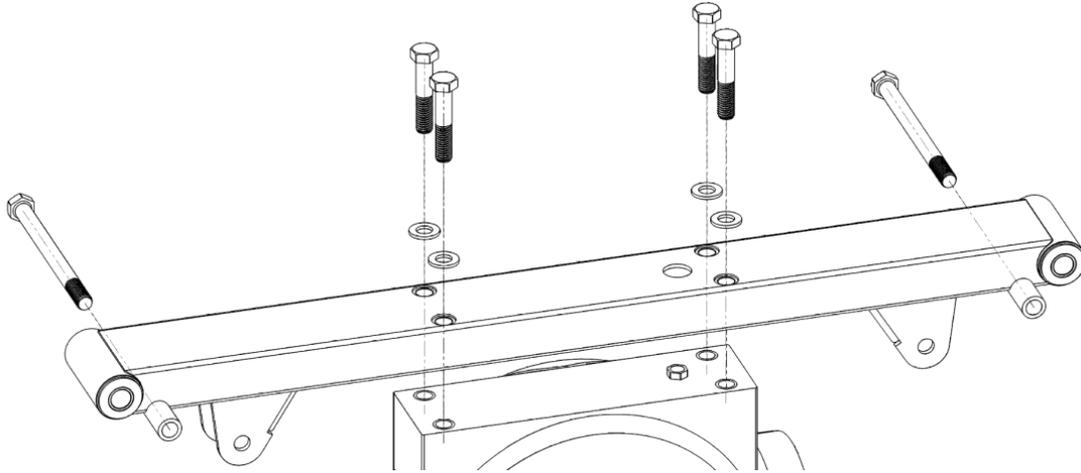

Figure 2. Install the cross member (make sure the vent hole is above the vent), and slip the upper shock bolts in place for now
- 4) Bolt the top crossmember to the top of housing with the upper link mounts facing down towards the ground, and the vent hole on the right (passenger) side as shown in Figure 2. Attach using QTY=4, ½" X 2-½" bolts, and 12mm washers supplied in the kit (metric washers are used here due to their small outer diameter). **Torque to 70-75 ft lbs.** Slip QTY=2, ½ X 6 ½" Bolts into the upper shock sleeves. Make sure that the threaded end is facing the rear of the housing (it's easier to do this now, than when it's in the vehicle).